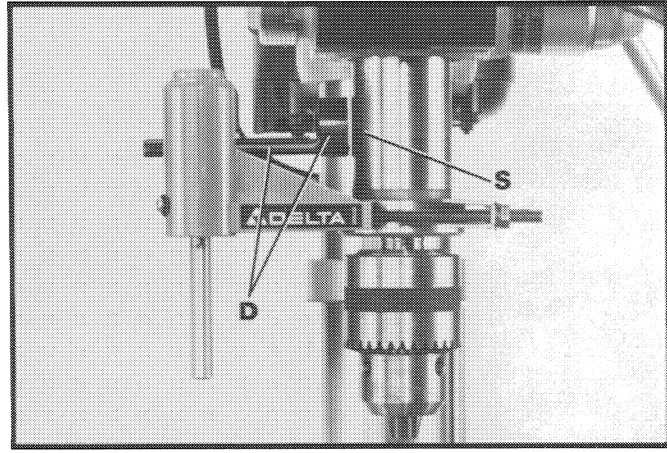
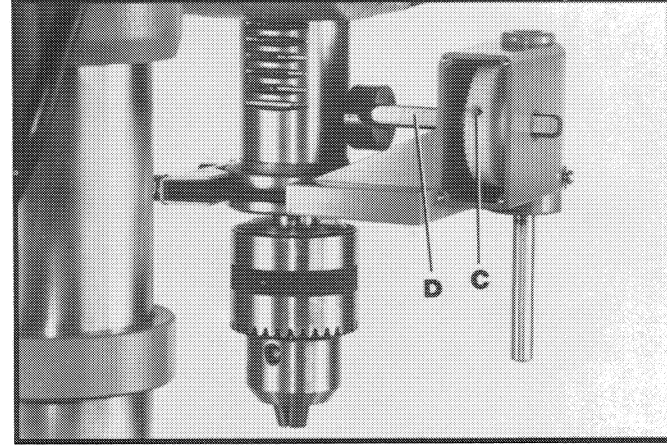

Fig. 11
Fig. 12
10. Slide cam (D) Fig. 11, toward the spindle (S) until cam (D) is almost touching spindle (S) as shown. Then tighten set screw (C) Fig. 12, which was loosened in STEP 3, against flat on cam shaft (D).